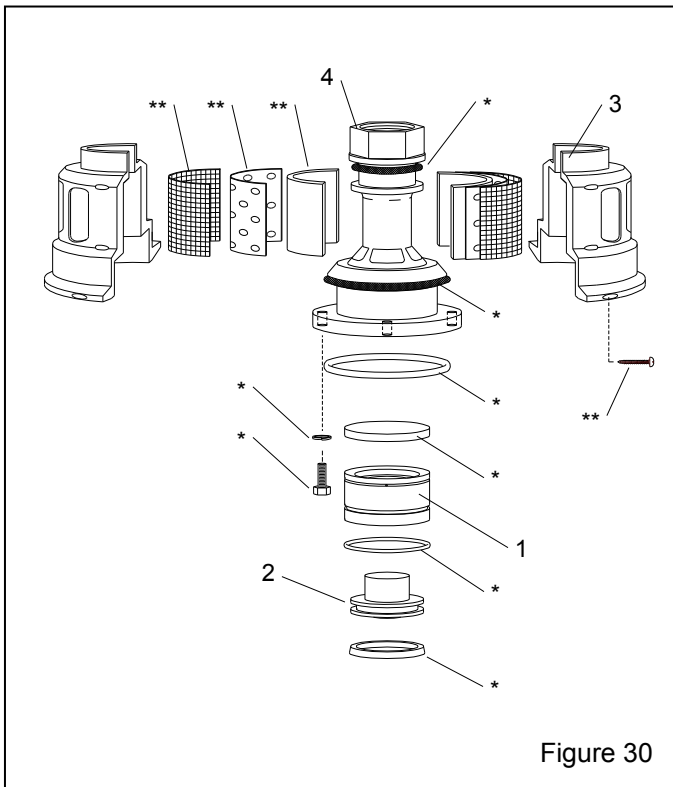

Figure 30
8.9 Millennium Valve Outlet Segment, Figure 30
(-)	Outlet valve & muffler assembly21731 Includes everything pictured in Fig. 30